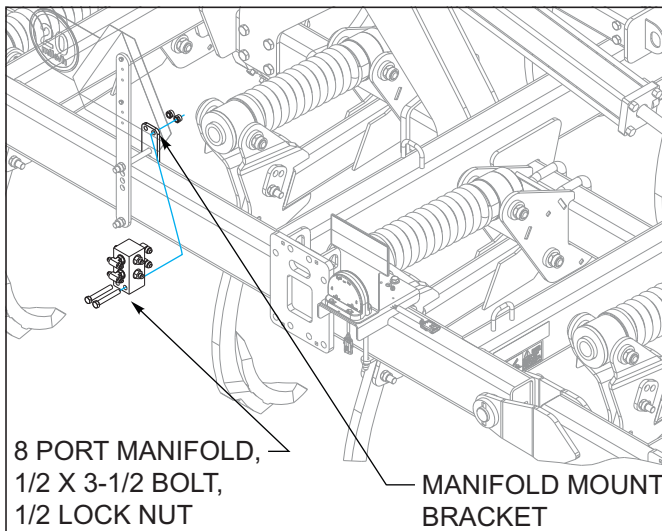

Figure 3-30: 8 Port Manifold Installation
5. On hydraulic Chopper Reel option, install the 8 port manifold to manifold mount with 1/2 x 4-1/2 bolts, 1/2 lock nuts as shown *See Figures 3-30.*